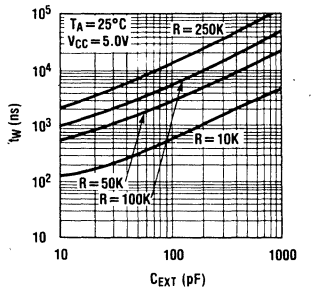

FIGURE 2
5. For $C_X < 1000$ pF see Figure 2 for T_W vs C_X family curves with R_X as a parameter: